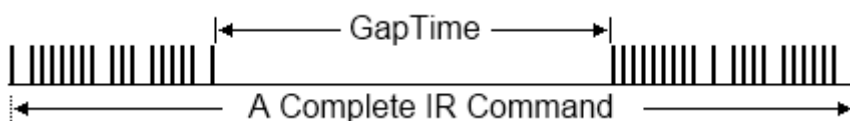

Figure 3-6 The IR protocol with longer GapTime.
- (1) DHCP is only effective if there is a DHCP server in the local area network.
- (2) Idle Timeout is the time interval (0 ~ 65535 minutes) when no communication for the Modbus/TCP connection. After exceeding the timeout, IR-712(P)-MTCP will close the connection. The default is 0 ms (disabled).
- (3) GapTime is the maximum space time in the IR protocol (6 ~ 200 ms; default: 80 ms) E.g.,the GapTime should be longer than 42 ms to learn the IR commands of the Sharp TV successfully. (Figure 3-6)